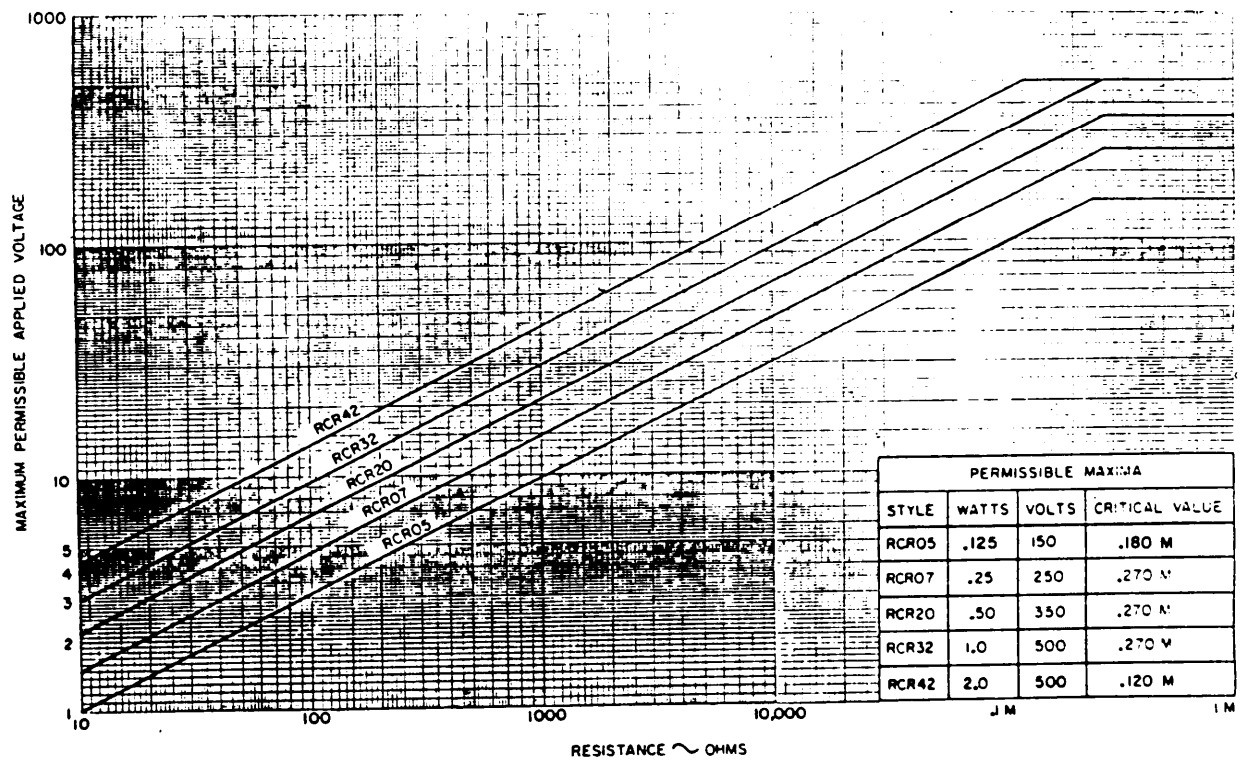

FIGURE 301-2. Vol tage l i m i t a t i o n s b y s t y l e .
2.8 Maximum rated voltage. The fact that there are voltage limits in the application of fixed composition resistors is often overlooked. These maximum rated applied voltages, which are imposed because of insulation breakdown problems, must be taken into consideration in addition to the limitations of power dissipation. Figure 301-2 illustrates the maximum voltages for various sizes (wattage ratings) of composition resistors.